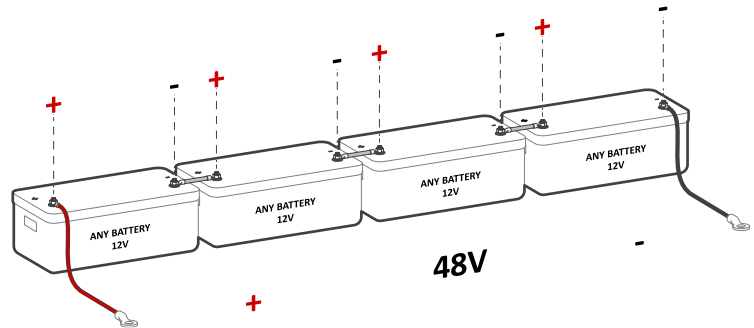

Figure 5b: 12V batteries in series connection
⚠ Sol-Ark 8K-2P-L is a **48V nominal system**. **DO NOT** connect the inverter to any other battery configuration. If you use 12V batteries, you **MUST NOT** exceed four (4) batteries in series, as shown in Figure 5b. The inverter can work with any battery chemistry as long as it remains within the range of **40V to 60V**.